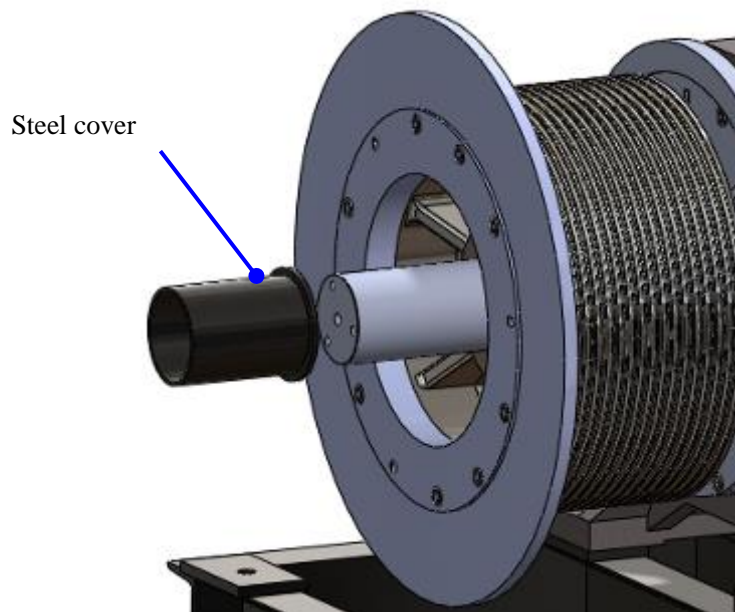

Figure 67: Install Steel cover
10. Install the Steel-Cover. See Figure 67.